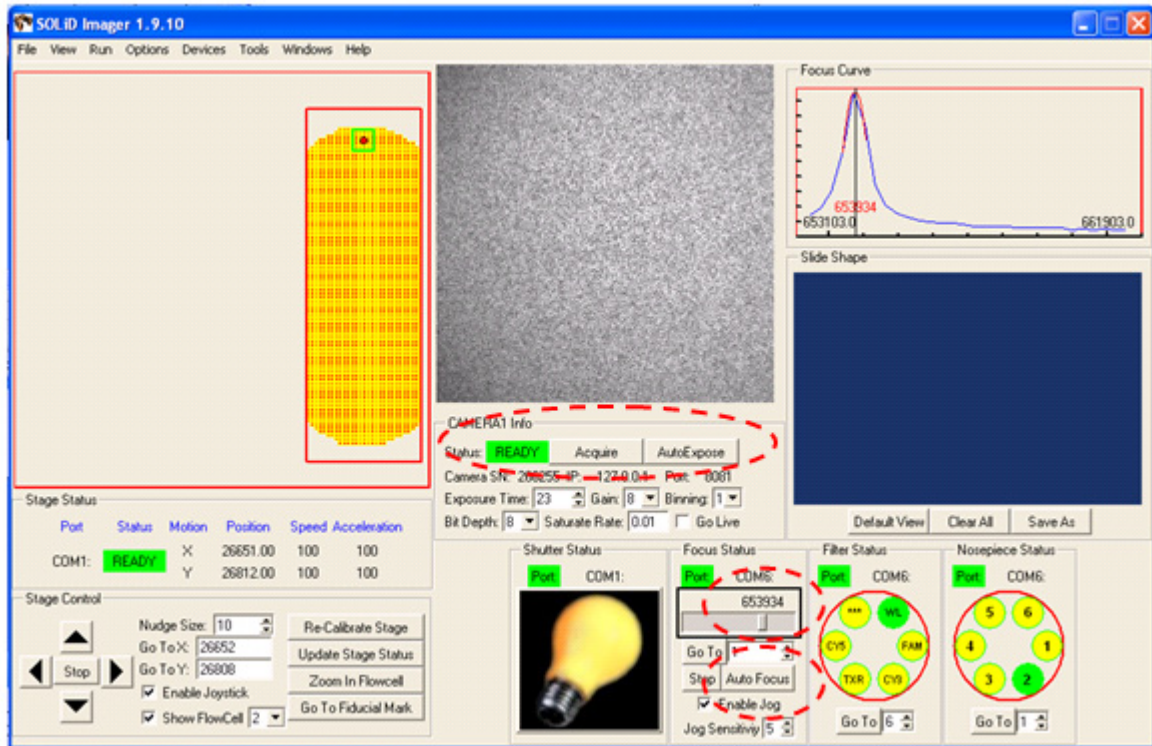

Figure 86 Record the Z distance value.
7. Record the Z distance value from the Focus Status pane (see Figure 86 on page 112).